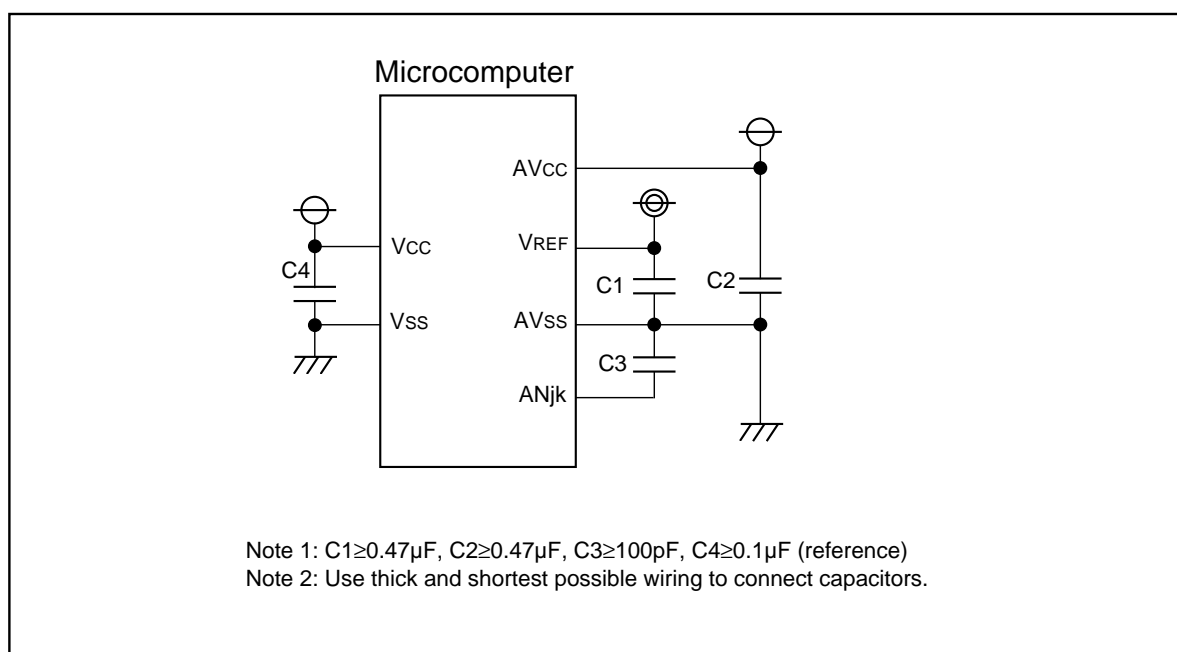

Figure 27.2 Use of Capacitors to Reduce Noise
- Insert capacitors between pins AVCC, VREF, analog input pin ANjk (j=none, 0, 2, 15; k=0 to 7) and AVSS to prevent latch-ups and malfunctions due to noise and to minimize conversion errors. The same applies to pins Vcc and Vss. Figure 27.2 shows the procedure.